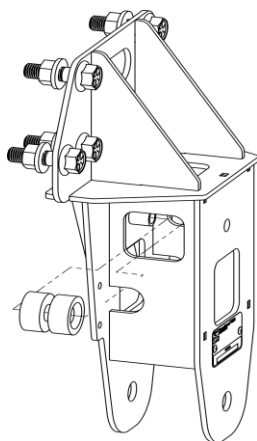

Figure 10: Insertion of Plastic Spacers in Front Hanger
1. Install Plastic Spacers in Front Hanger, refer to **Figure 10**.